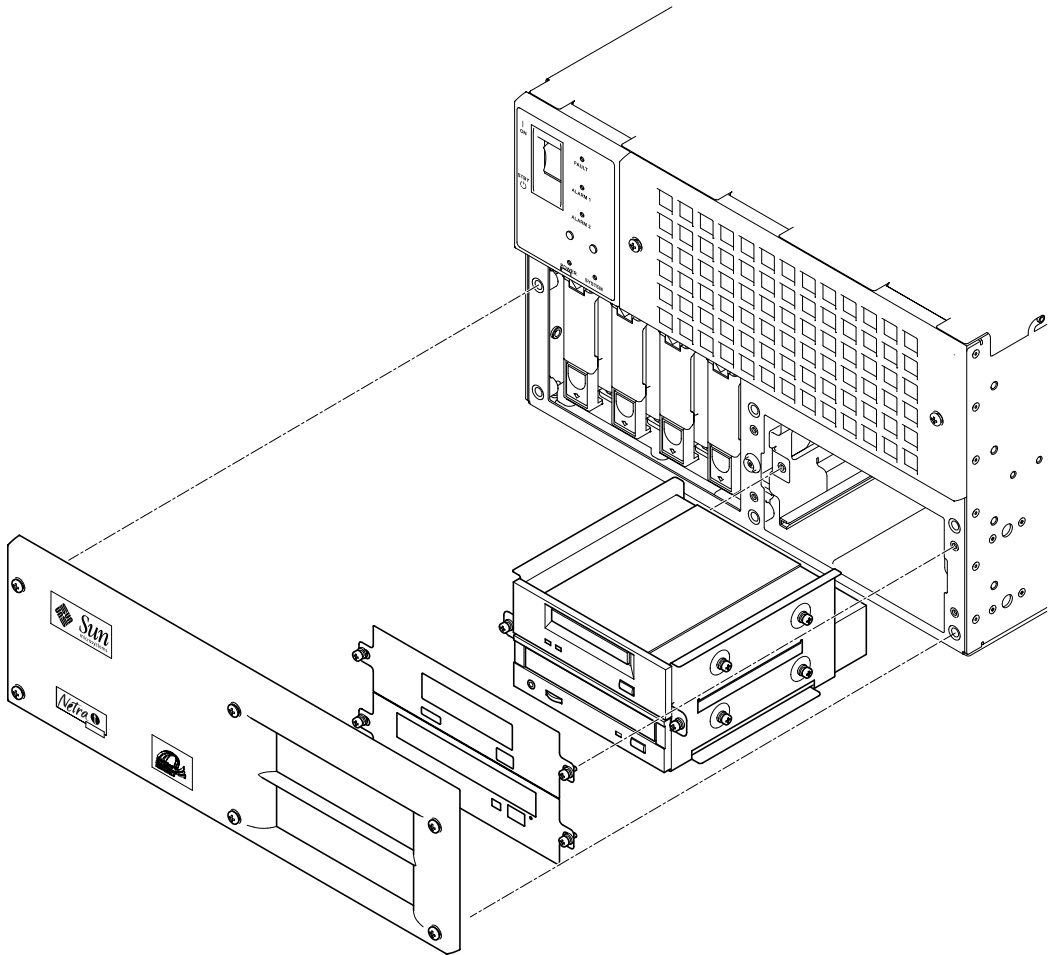

FIGURE 8-2 Removing and Replacing the CD-ROM or Tape Drive
- 8. Push the media cage fully into the runners on the system chassis (FIGURE 8-2 on page 8-5).**